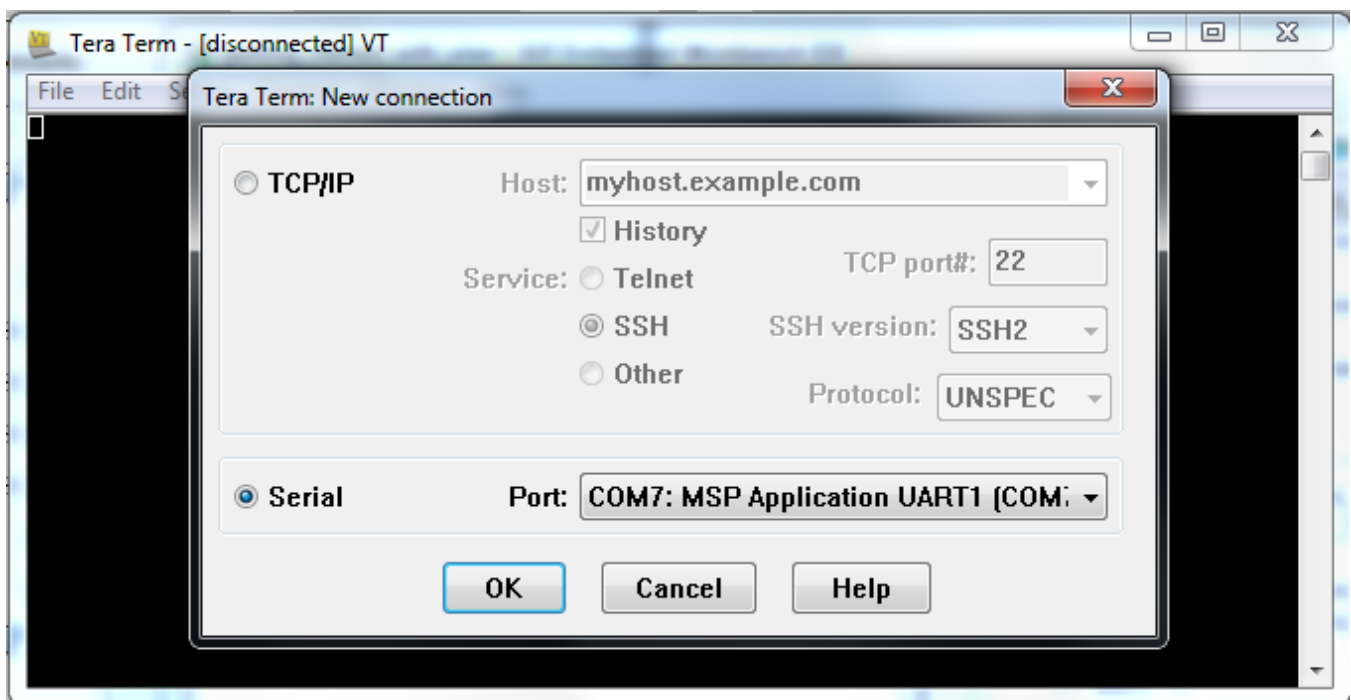

Figure 14. Launch Tera Term
8. Launch Tera Term, and create a new serial connection to the MSP430F5529 Launchpad COM port as shown in Figure 14. The baud rate should remain at 9600.